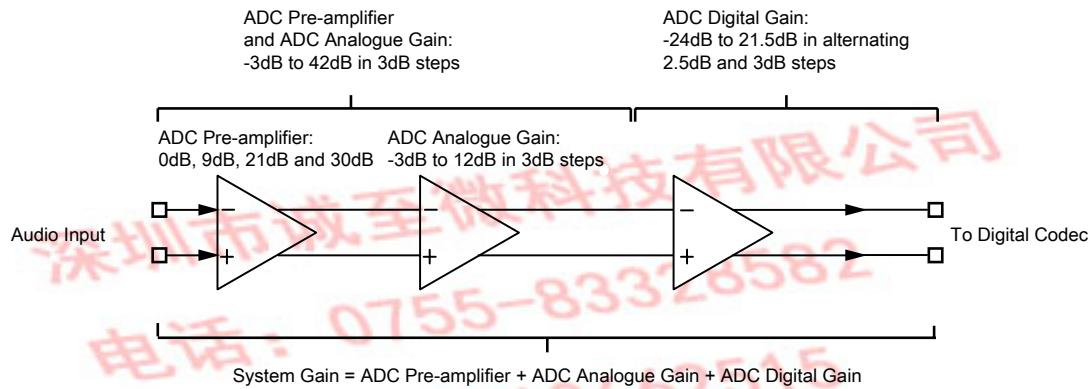

Figure 9.3: Audio Input Gain
Figure 9.3 shows that the CSR8645 BGA audio input gain consists of:
- The overall analogue gain for the pre-amplifier and analogue amplifier is -3dB to 42dB in 3dB steps, see Figure 9.3